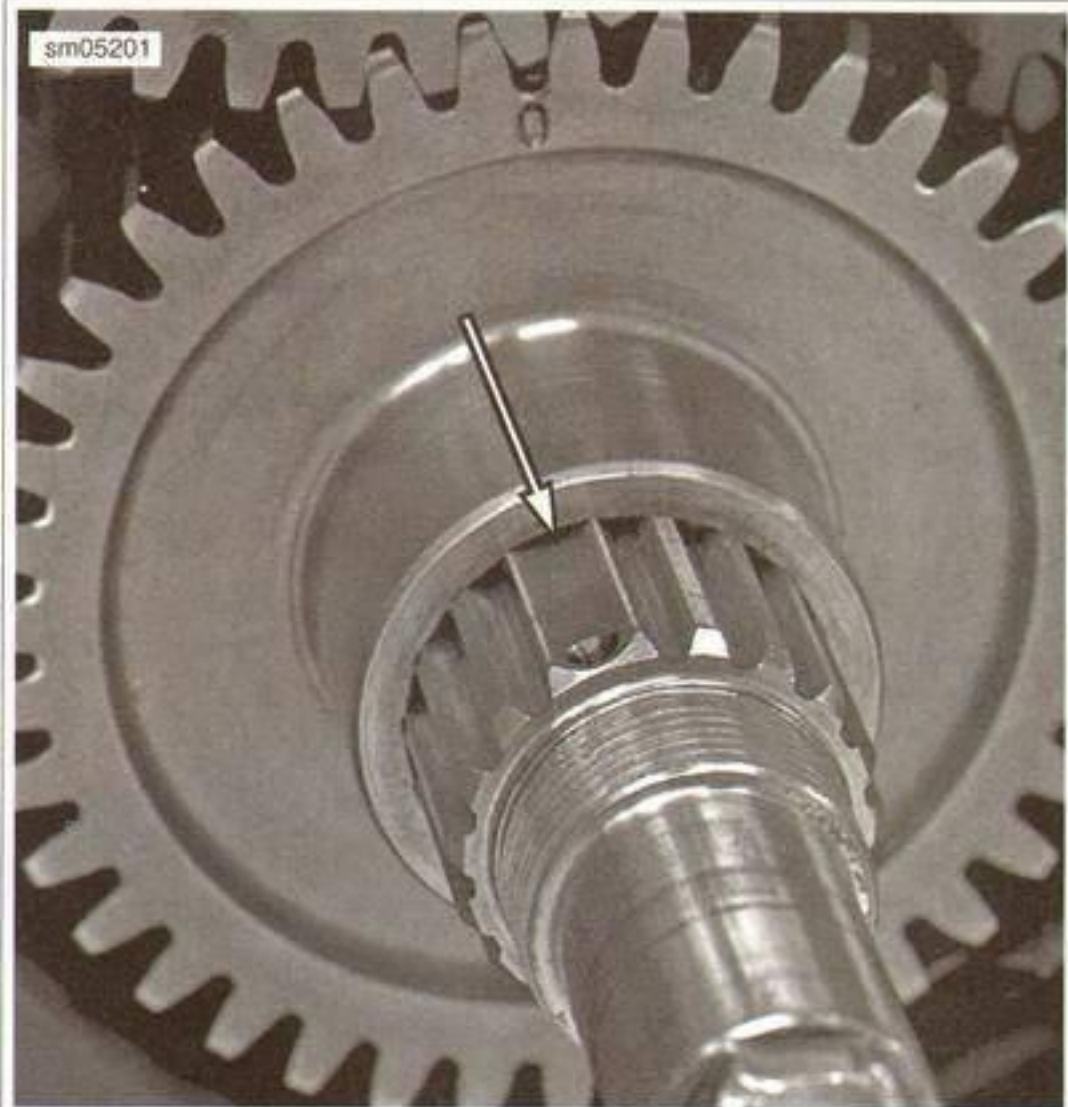

Figure 7-38. Crankshaft Spline Double Tooth and Gap in Splines in Rotor
5. See Figure 7-38. Match the double tooth spline on the crankshaft with the gap in splines in the rotor hub and slide the rotor hub onto the crankshaft.